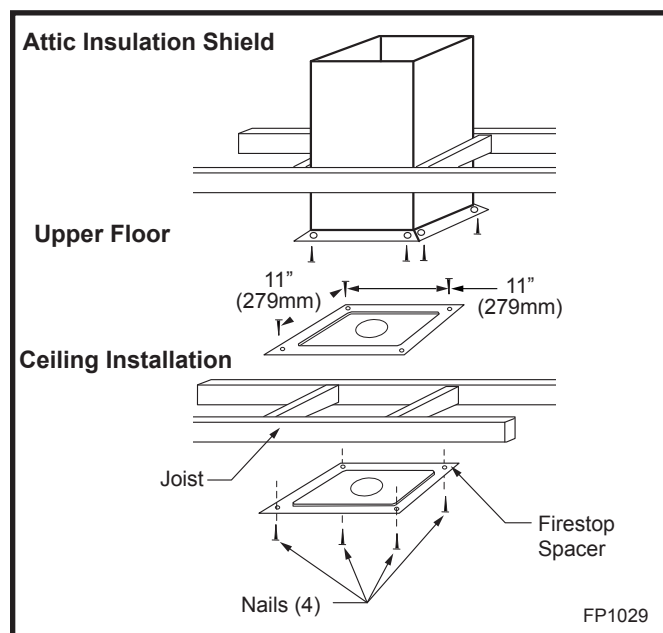

Fig. 27 Place firestop spacer(s) and secure.
6. Place firestop(s) #7DVFS or Attic Insulation Shield #7DVAIS into position and secure. (Fig. 27)